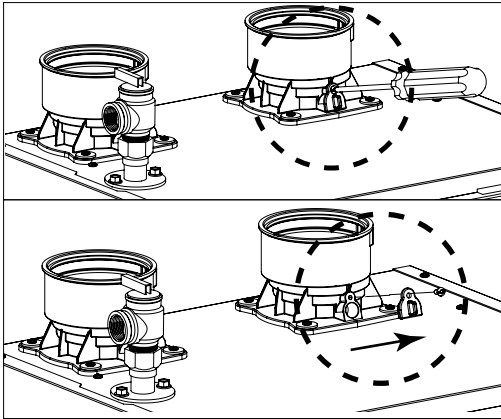

Figure 72 - Combustion Test Port
5. Reinstall the combustion test port - see Figure 72.